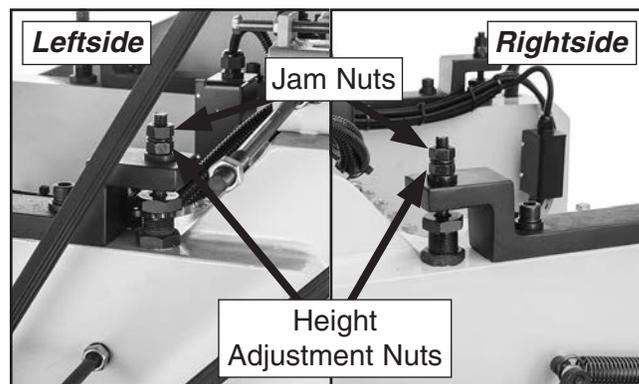

Figure 115. Location of serrated roller height adjustment hardware.
5. Loosen serrated roller jam nut and hex nut on spring-loaded height adjustment rod (see **Figure 115**).